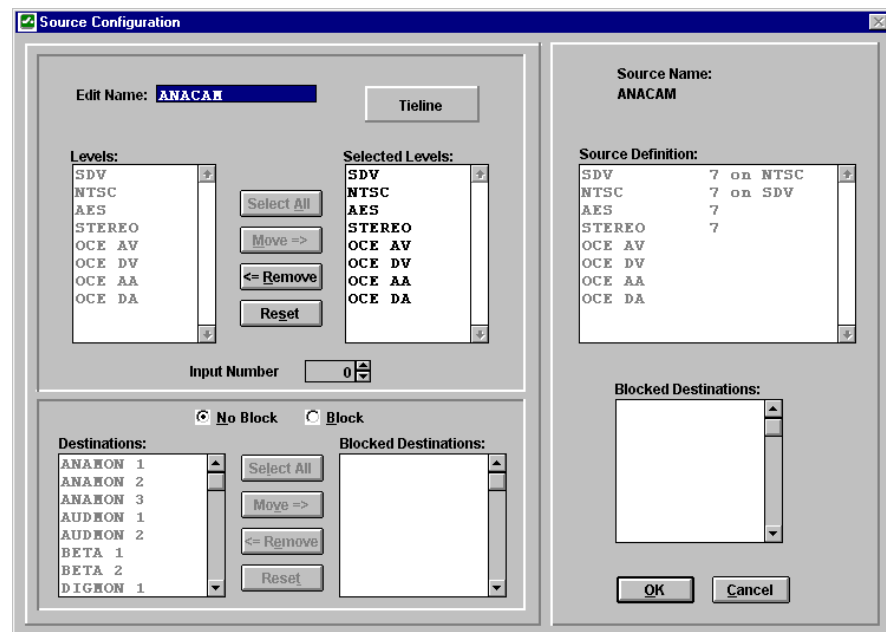

Figure 25 Source Configuration Window
1. Click the **Add** button in the SOURCE window to open the SOURCE CONFIGURATION window (Figure 25).
To modify an existing source, select the source to be changed and click on the **Edit** button. This will open the SOURCE CONFIGURATION window (Figure 25) where any desired changes may be made.
To create a source based on an existing one, select the existing source and click on the **Copy** button. This will open the SOURCE CONFIGURATION window (Figure 25). When this window opens, select a new source name, and change the displayed source information as required.